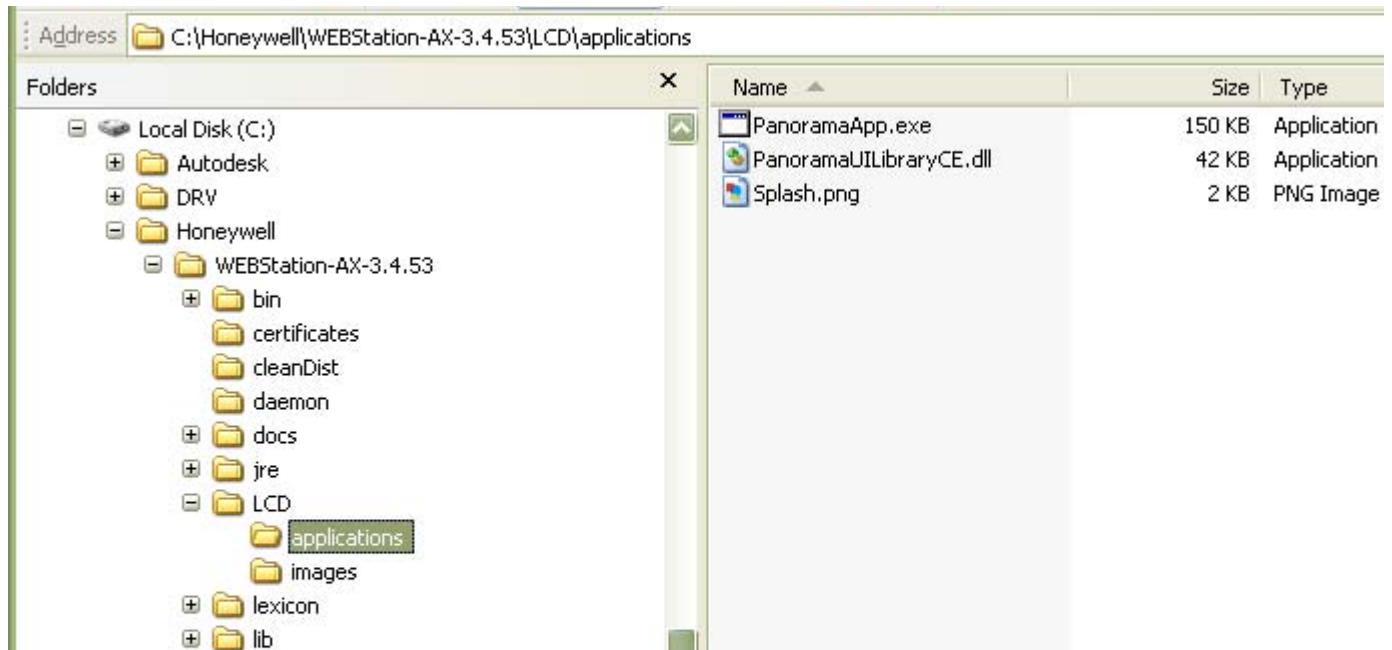

Fig. 43. Location of Applications folder.
2. Copy the files located in the Applications folder (see Fig. 43) onto the root directory of the USB drive: